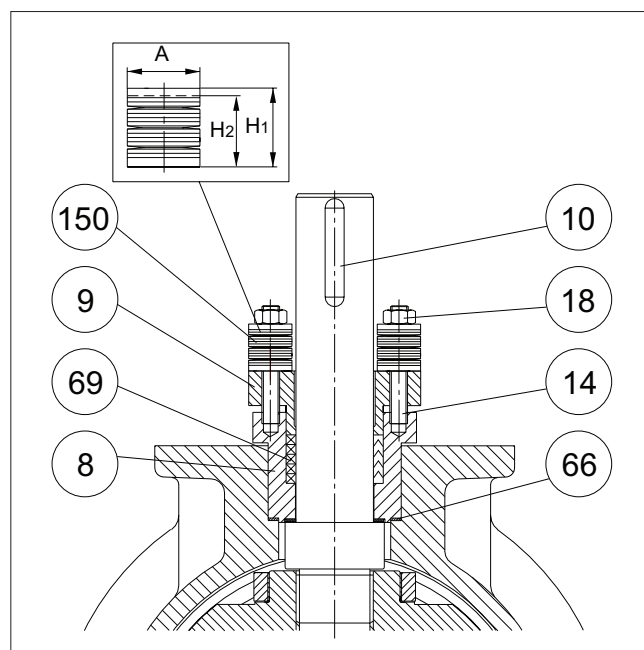

Fig. 8 Gland packing
- Remove the key (10).
- Remove the nuts (18), the disc spring sets (150) and the gland (9).
- Remove old packing rings (69). Do not damage the surfaces of the packing ring counterbore and shaft.
- Place the new packing rings (69) over the shaft (5). The gland follower may be used for pushing the rings into the counterbore. Do not damage packing rings in the shaft keyway. See Fig. 8 for proper orientation.
- Sizes 18"/DN450 ... 24"/DN600: Remove the gland nuts. Install washers (150a) and torsion springs (150b) on the gland studs (14). Continue to next bullet, the disc spring set comes on top of the washer and torsion spring.